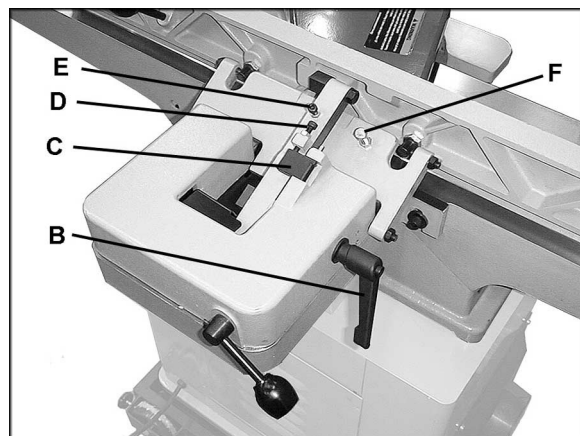

Figure 25
4. Tighten the hex nut (D, Figure 25) and the locking handle (B, Figure 25).
1. The 45 degree forward stop is controlled by the screw (E, Figure 25).